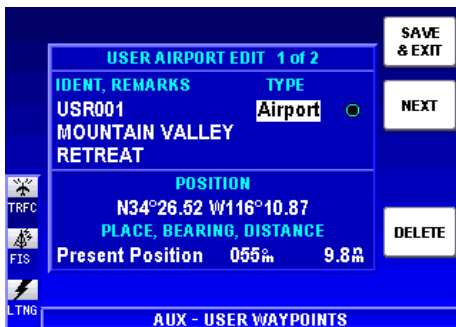

Figure 1-82
2. Turn the Rotary Knob to select **Airport** as shown in Figure 1-82. Note that the display title has changed to **USER AIRPORT EDIT 1 of 2**.